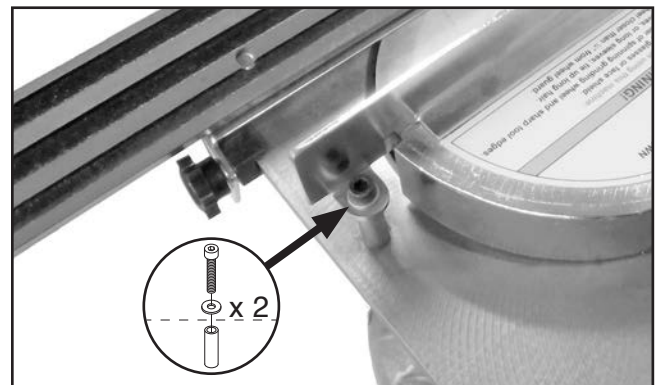

Figure 30. Location of wheel guard fasteners.
2. Remove (2) M5-.8 x 35 cap screws, (2) 5mm flat washers, and (2) spacers shown in **Figure 30**, then remove wheel guard.